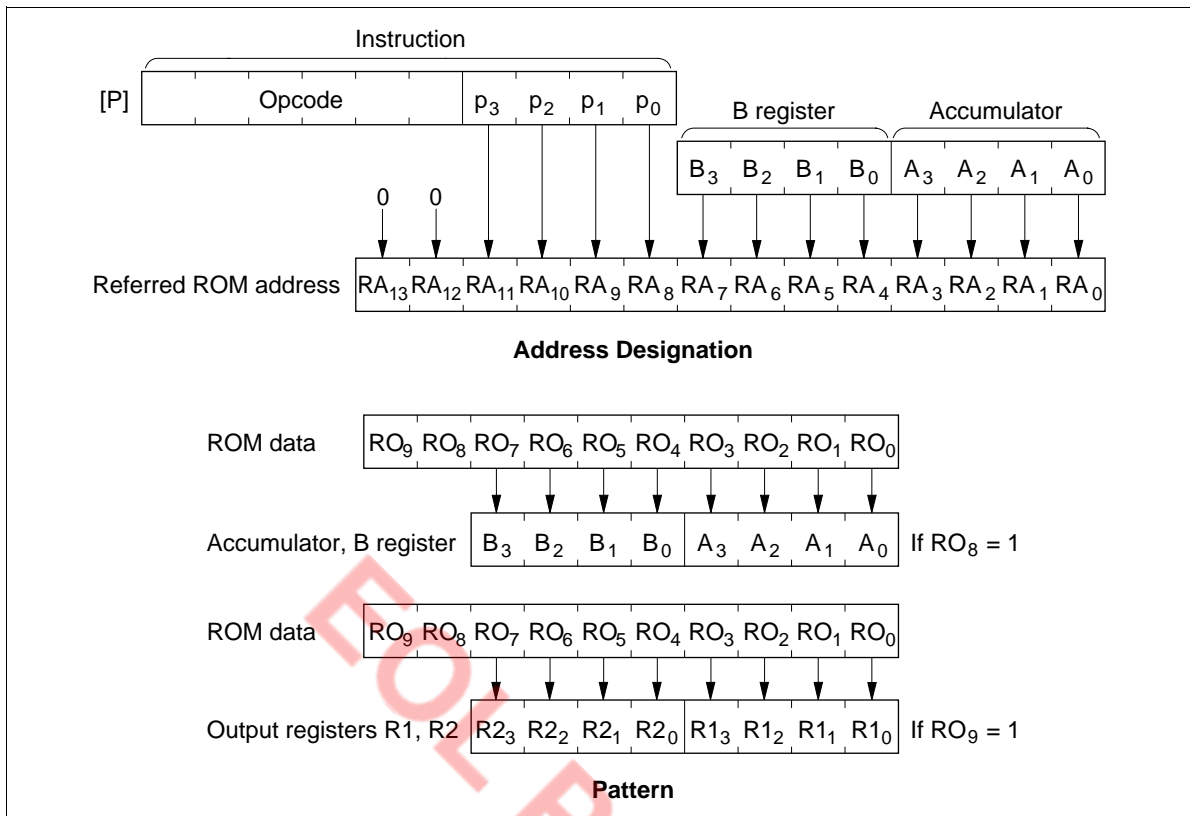

Figure 25 P Instruction
**P Instruction:** ROM data addressed by table data addressing can be referenced by the P instruction (figure 25). When bit 8 in the referred ROM data is 1, 8 bits of ROM data are written into the accumulator and B register. When bit 9 is 1, 8 bits of ROM data are written into the R1 and R2 port output registers. When both bits 8 and 9 are 1, ROM data are written into the accumulator and B register, and also to the R1 and R2 port output registers at the same time.